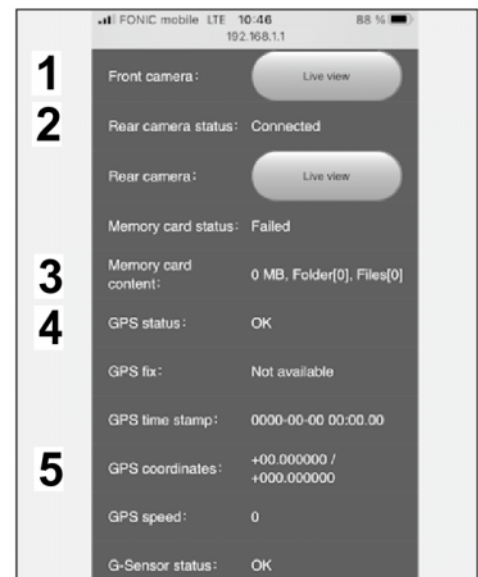

Figure 34
6.2 Display of live images from front camera, connection status, memory card status, GPS and radar status and more (⇒ *Figure 34*).